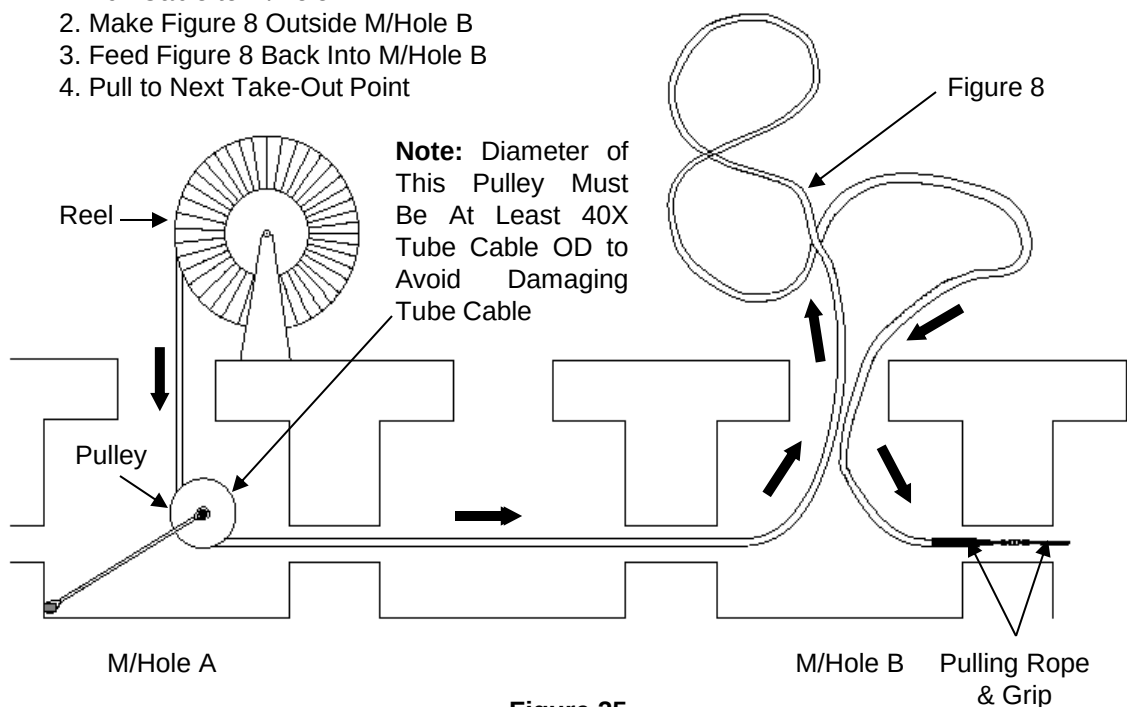

Figure 25
17.4.2 Basic installation sequence is shown in **Fig. 25**.